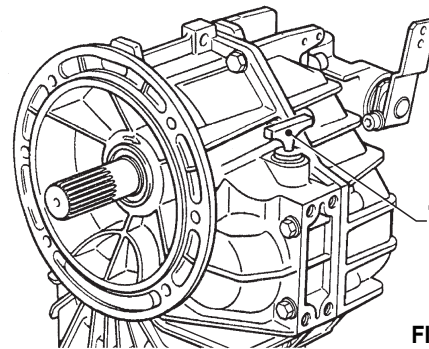

FIG. 2-1
Unscrew dipstick (item 1, Fig. 2-1) (counterclockwise) and pull out of housing. Replace O-Ring if present (check parts list section 10).